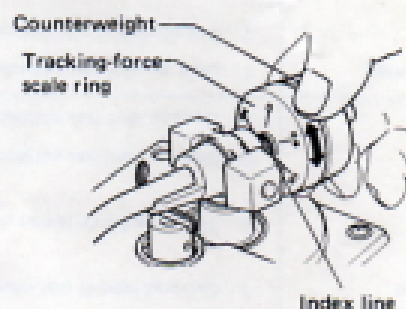

Fig. 10
8. Since the tracking force is zero when the tonearm is balanced level, turn just the tracking-force scale ring in front of the counterweight, and set the "0" on the scale to the index line on the shaft (Fig. 10). When doing so, be sure to hold the counterweight with the other hand so that it does not turn together with the scale ring: